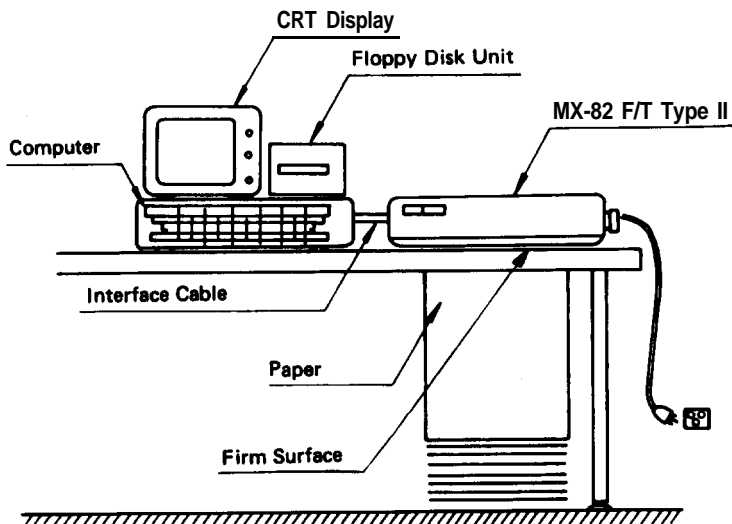

Fig. 20 Laying Printer on Firm Surface
- (a) Place the Printer on a bench, tabletop or any other convenient flat surface with enough room for the separator in the back of the Printer. Your layout may look like Fig. 20.